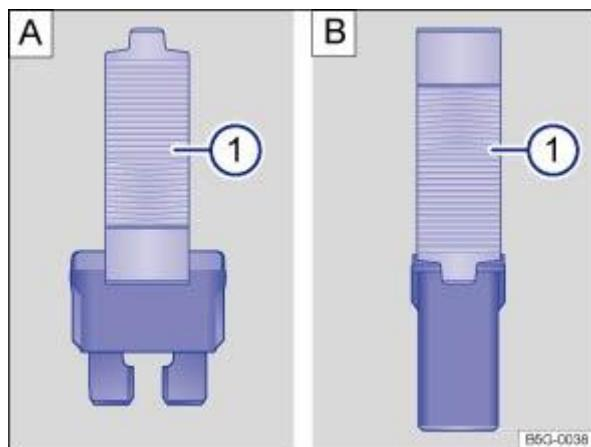

Fig. 175 Removing or inserting a fuse with plastic pliers: : flat blade fuse, : JCASE® fuse.
② If necessary, take the plastic pliers ⇒ Fig. 175 **(1)** out of the respective fuse box cover.
② Push the plastic pliers clamp suitable for the fuse type ⇒ Fig. 175 **A** **(1)** or ⇒ Fig. 175 **B** **(1)** onto the fuse from the side.
② Pull out the fuse.
② If the fuse has blown, replace it with a new fuse of the same amp rating (same colour and same markings) and same size ⇒ **(1)**.
② Once the new fuse has been inserted, put the plastic pliers back in the cover if necessary.
② Insert the cover again or close the fuse box cover.